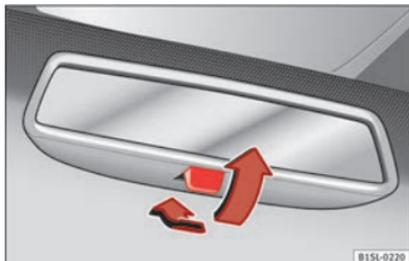

Fig. 146 Manual anti-dazzle function for rear vision mirror
- Pull the lever to the back to select the anti-dazzle function »» **Fig. 146**.